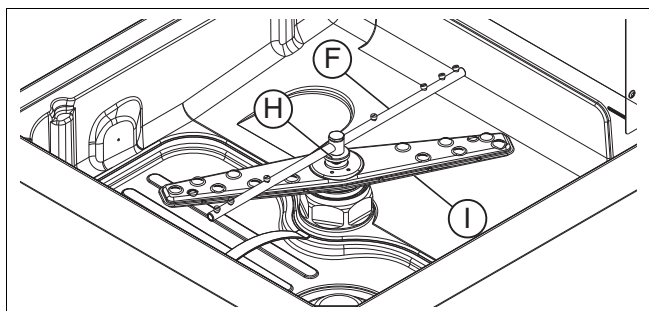

Figure 30 Wash and rinse arms
- Remove the upper and lower wash arms "F" and rinse arms "I", undoing the ring nut "H" (Figure 30).